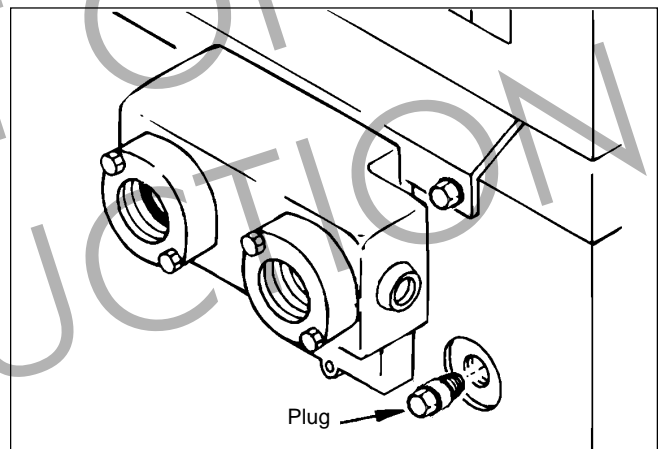

Figure 34. Scale Inspection.
2. Remove the large, hex-head plug located on the right side of the heater under the in/out header (see Figure 34). Perform this inspection after 60 days of and after 120 days of operation. This will establish a regular inspection routine.